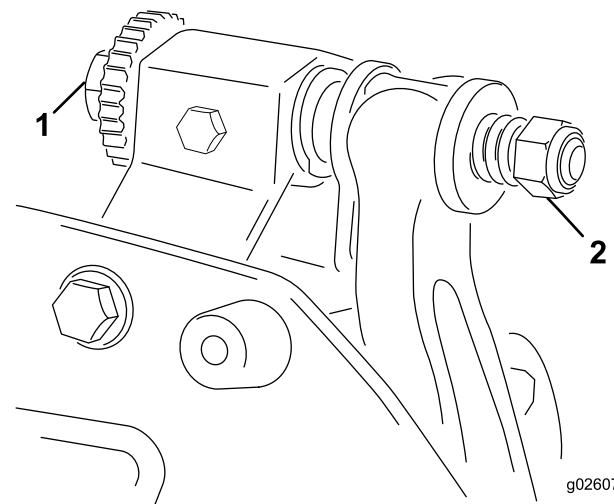

Figure 4
- A. Turn the bedbar adjusting screws clockwise (Figure 4), 1 click at a time, until you feel and hear light contact.
6. Turn the right bedbar adjusting bolt (Figure 4) until you feel light pressure on the shim when sliding it side-to-side. Remove the shim.